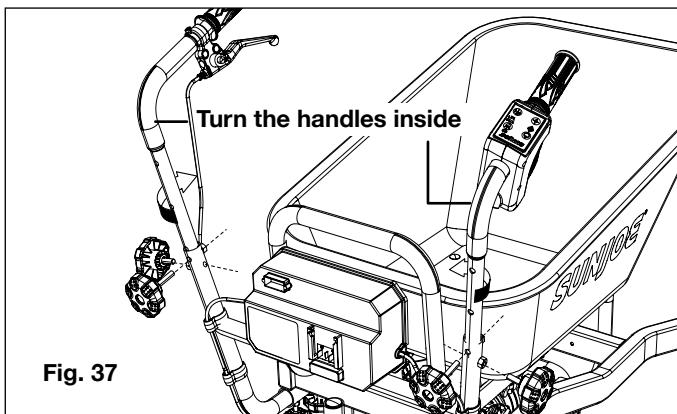

Fig. 37
2. If needed, remove the handle knobs securing the two handles and turn handles backwards to save more space. Replace the hand knobs and tighten to secure the handles (Fig. 37).